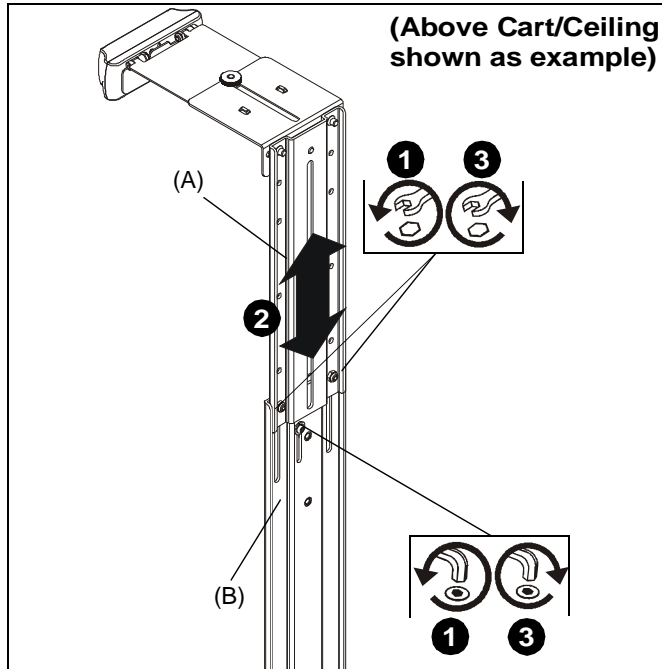

Figure 36
1. Loosen hardware used to attach main bracket (B) to upright bracket (A). (See Figure 36)
2. Adjust shelf height as desired. (See Figure 36)
3. Tighten hardware used to attached main bracket (B) to upright bracket (A). (See Figure 36)